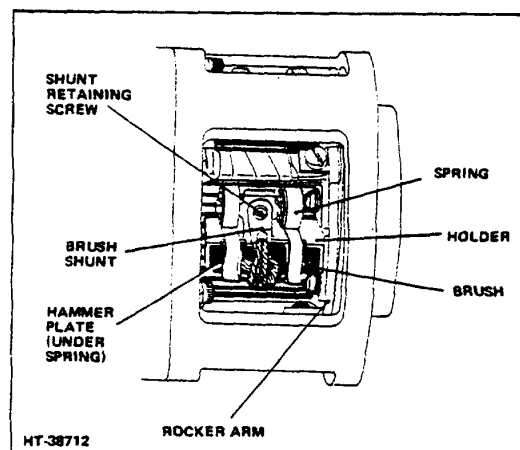

Figure 2-1. Brush Location
6. Check brush shunt (Fig 2-1) for good contact with the brush holder. Make certain shunt is not damaged or burned. This may cause pressure spring to carry current and lose tension; good spring pressure is vital to motor operation. (Refer to following SPECIFICATION CHART for proper brush spring pressure).